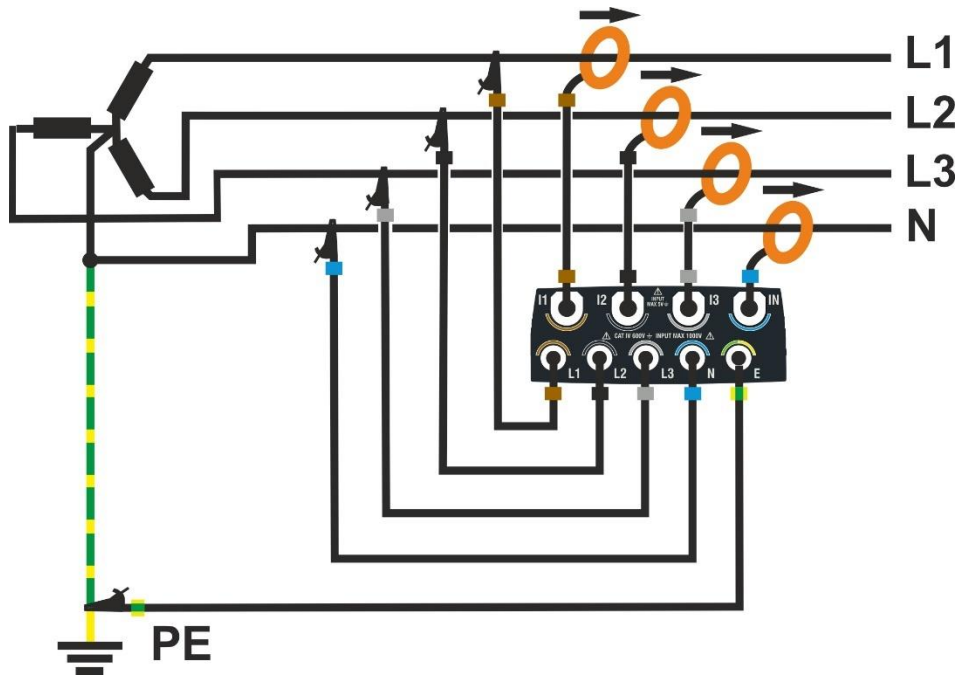

Fig. 66: Connecting the instrument to a Three-Phases 3 Wires system
2. Connect the voltage cables to the L1, L2, L3 and PE conductors as shown in Fig. 66. **Check that the display shows "1-2-3" for the correct cyclic direction of the phases** (see § 5.1.1)